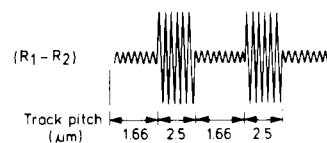

Fig. 9
- e. Adjust the amplitude of the signal from the signal generator so that a 1 kHz whistle is just audible from the objective and the oscilloscope displays a HF signal modulated with a 1 KHz sinewave (see Fig. 9).